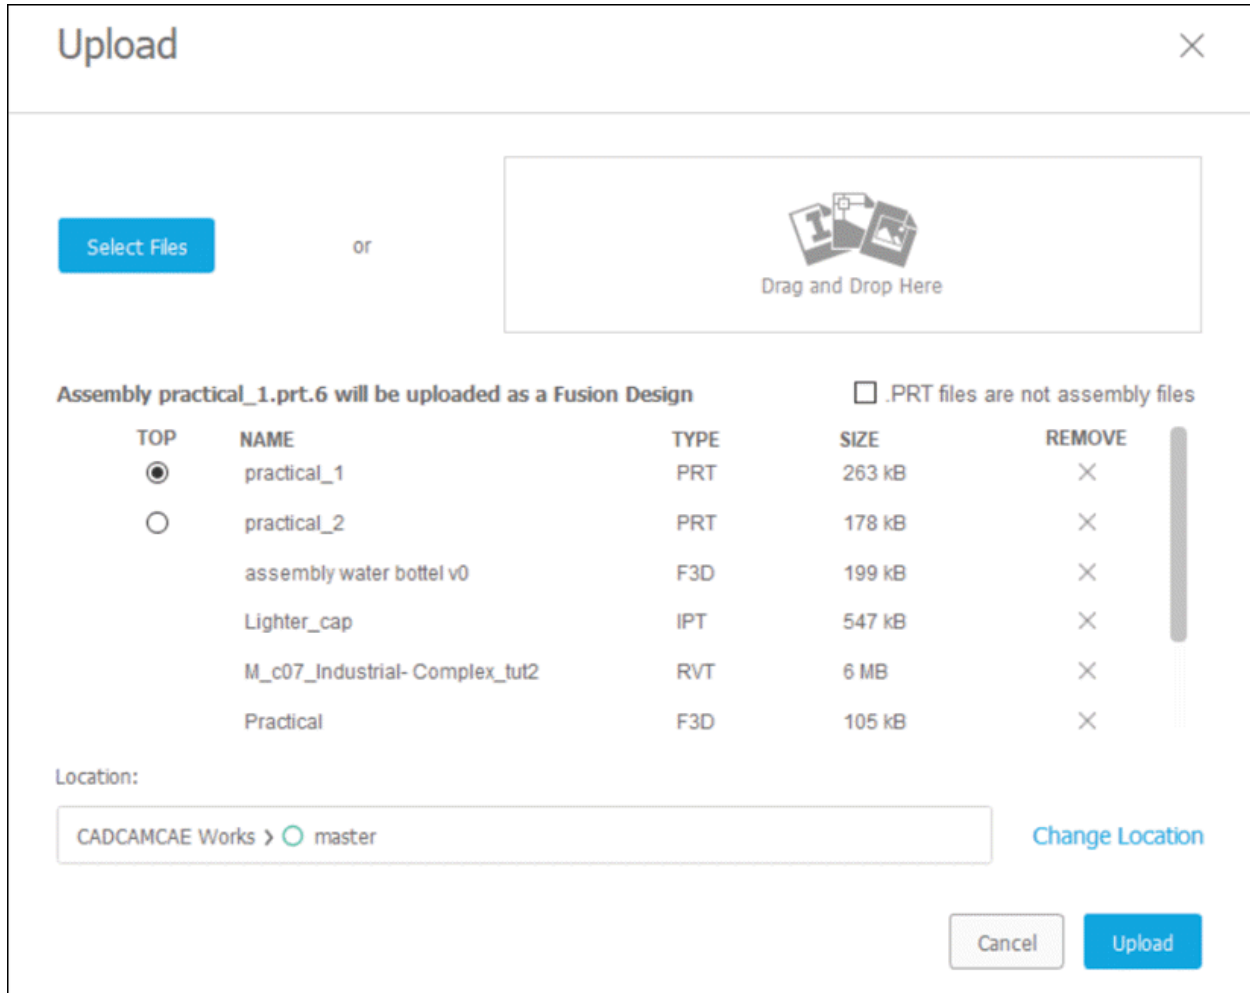

Figure-21. Updated Upload dialog box
- Click on the **Open** button from the dialog box to upload files. Or, drag the files in the dialog box and drop them. The options in the **Upload** dialog box will be updated; refer to Figure-21.